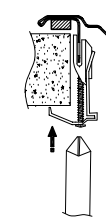

Fig 3.
11. Fix the sink to the worktop by tightening the screws on the fixing clips clockwise (fig. 3) using a crosshead screwdriver, the sink frame will pull down tight and flat to the top surface to the worktop.